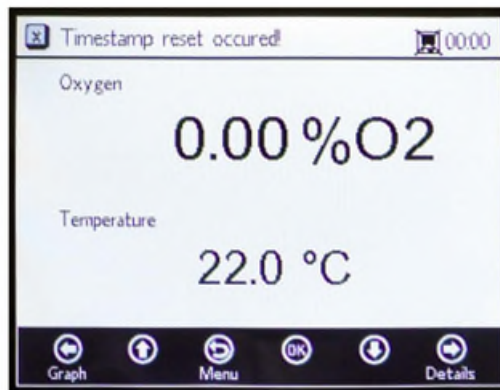

Figure 13. Warning: Timestamp reset
- ▶ If the power to the analyzer is disabled, the Time and Date will be set to 0 on start-up. A warning message will display in the Status bar as shown in Figure 13.